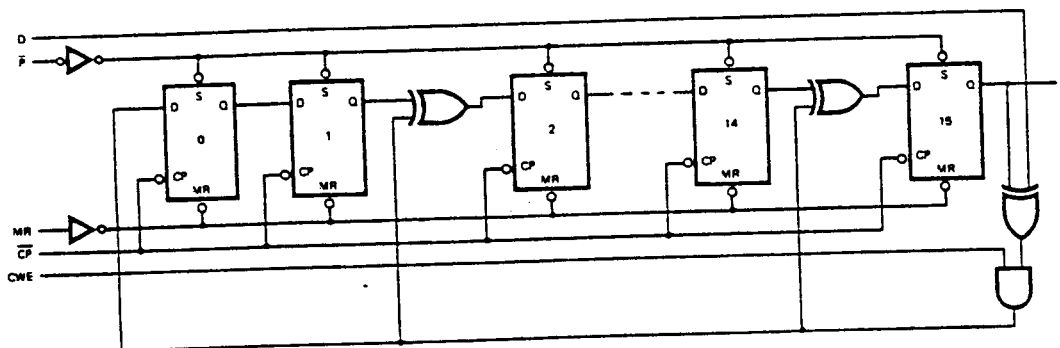

Fig. 1
The 9401 consists of a 16-bit register, a Read Only Memory (ROM) and associated control circuitry as shown in the block diagram. The polynomial control code presented at inputs S_0 , S_1 and S_2 is decoded by the ROM, selecting the desired polynomial by establishing shift mode operation on the register with Exclusive OR gates at appropriate inputs. To generate the check bits, the data stream is entered via the Data inputs (D), using the HIGH-to-LOW transition of the Clock input ($\overline{CP}$). This data is gated with the most significant output (Q) of the register, and controls the Exclusive OR gates (Figure 1). The Check Word Enable (CWE) must be held HIGH while the data is being entered. After the last data bit is entered, the CWE is brought LOW and the check bits are shifted out of the register and appended to the data bits using external gating (Figure 2).